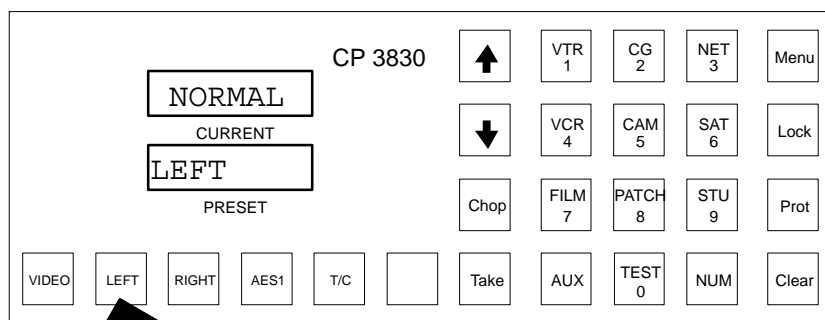

Figure 6–128.
The MENU button will light in red. The Current window will show the audio mode for the audio channel shown in the Preset window. In Figure 6–128, the Left audio channel is set to “Normal.”
3. Toggle the Left channel level key (see Figure 6–128) to the desired mode: